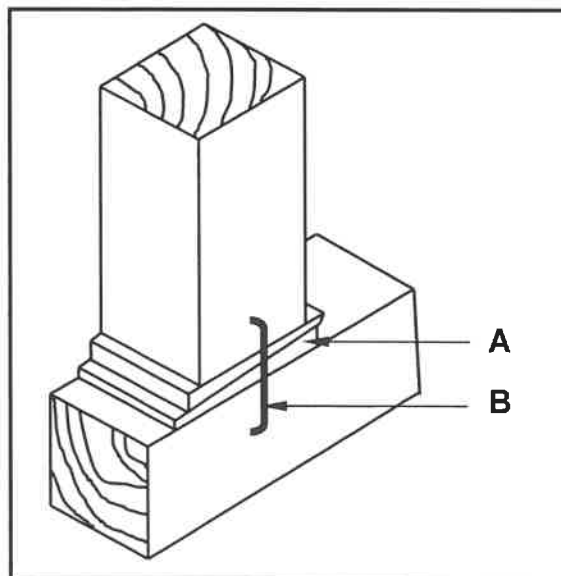

FIGURE 5.3
5.3 FIGURE 5.3 below shows part of the detail of a dead shore. Study the drawing and answer the questions that follow.